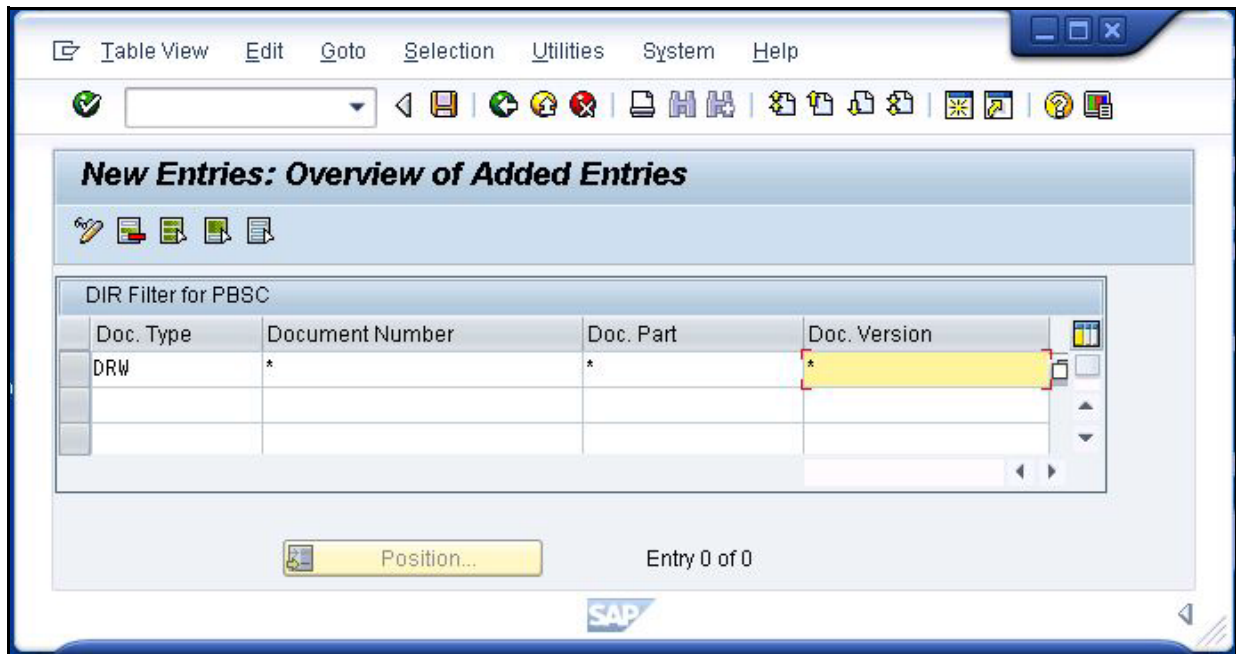

Figure 4-54: Filtering by Doc. Type DRW
- 4 Click **New Entries**. Enter values to filter what originals are sent to the queue. Notice that, for SAP ECC, you can also filter objects by Compound Key. In Figure 4-54, the filter is set so that only documents of type DRW are added to the PBSC queue.